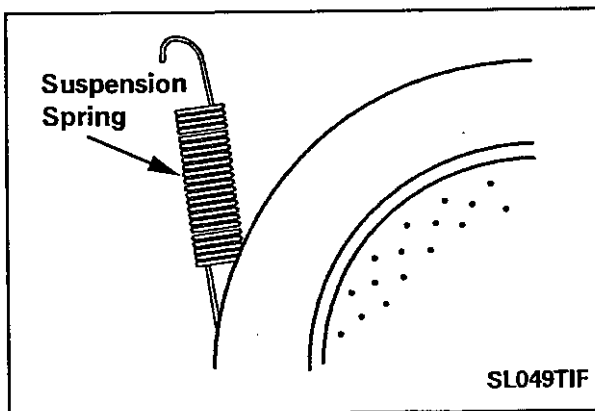

Figure 6-1
3. Allow the front shroud to suspend down in front of the washer to expose the front suspension springs (Figure 6-1).